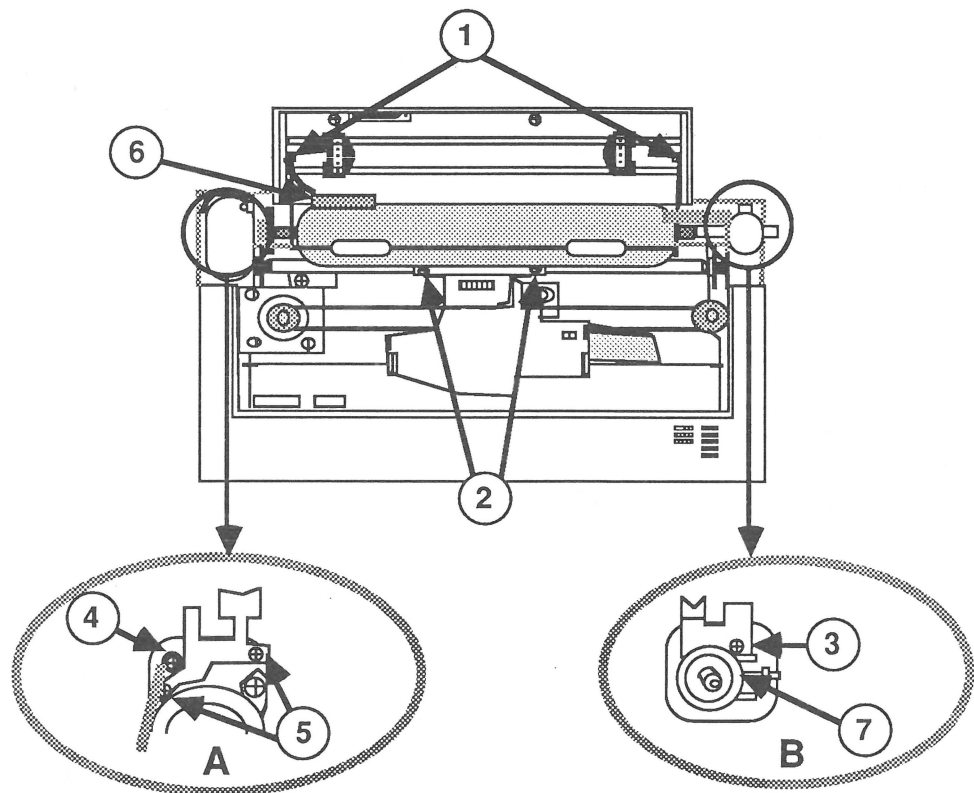

FIGURE 34
5. Remove the paper bail assembly screws (Figure 34, #1).
6. Remove the two screws (Figure 34, #2) that hold the paper guide in place. Lift the paper guide out of the machine.
7. From the right side of the printer, remove the screw (Figure 34, #3) that holds the metal plate in place. Set the metal plate and screw aside.
8. From the left side, remove the screw (Figure 34, #4) that holds the grounding strap in place.
9. From the left side, remove the two screws that hold the metal plate in place (Figure 34, #5). Set the metal plate and two screws aside.
10. Locate the metal plate attached to the platen (Figure 34, #6). The plate has a small black grounding wire either soldered to it or attached with a screw: either unsolder the wire or remove the screw.
12. On the right side of the machine are two plastic pieces, the platen bushing and the free lever. The platen shaft slides into the bushing (Figure 34, #7). Use a flathead screwdriver to gently snap the outer piece free. Remove both pieces.